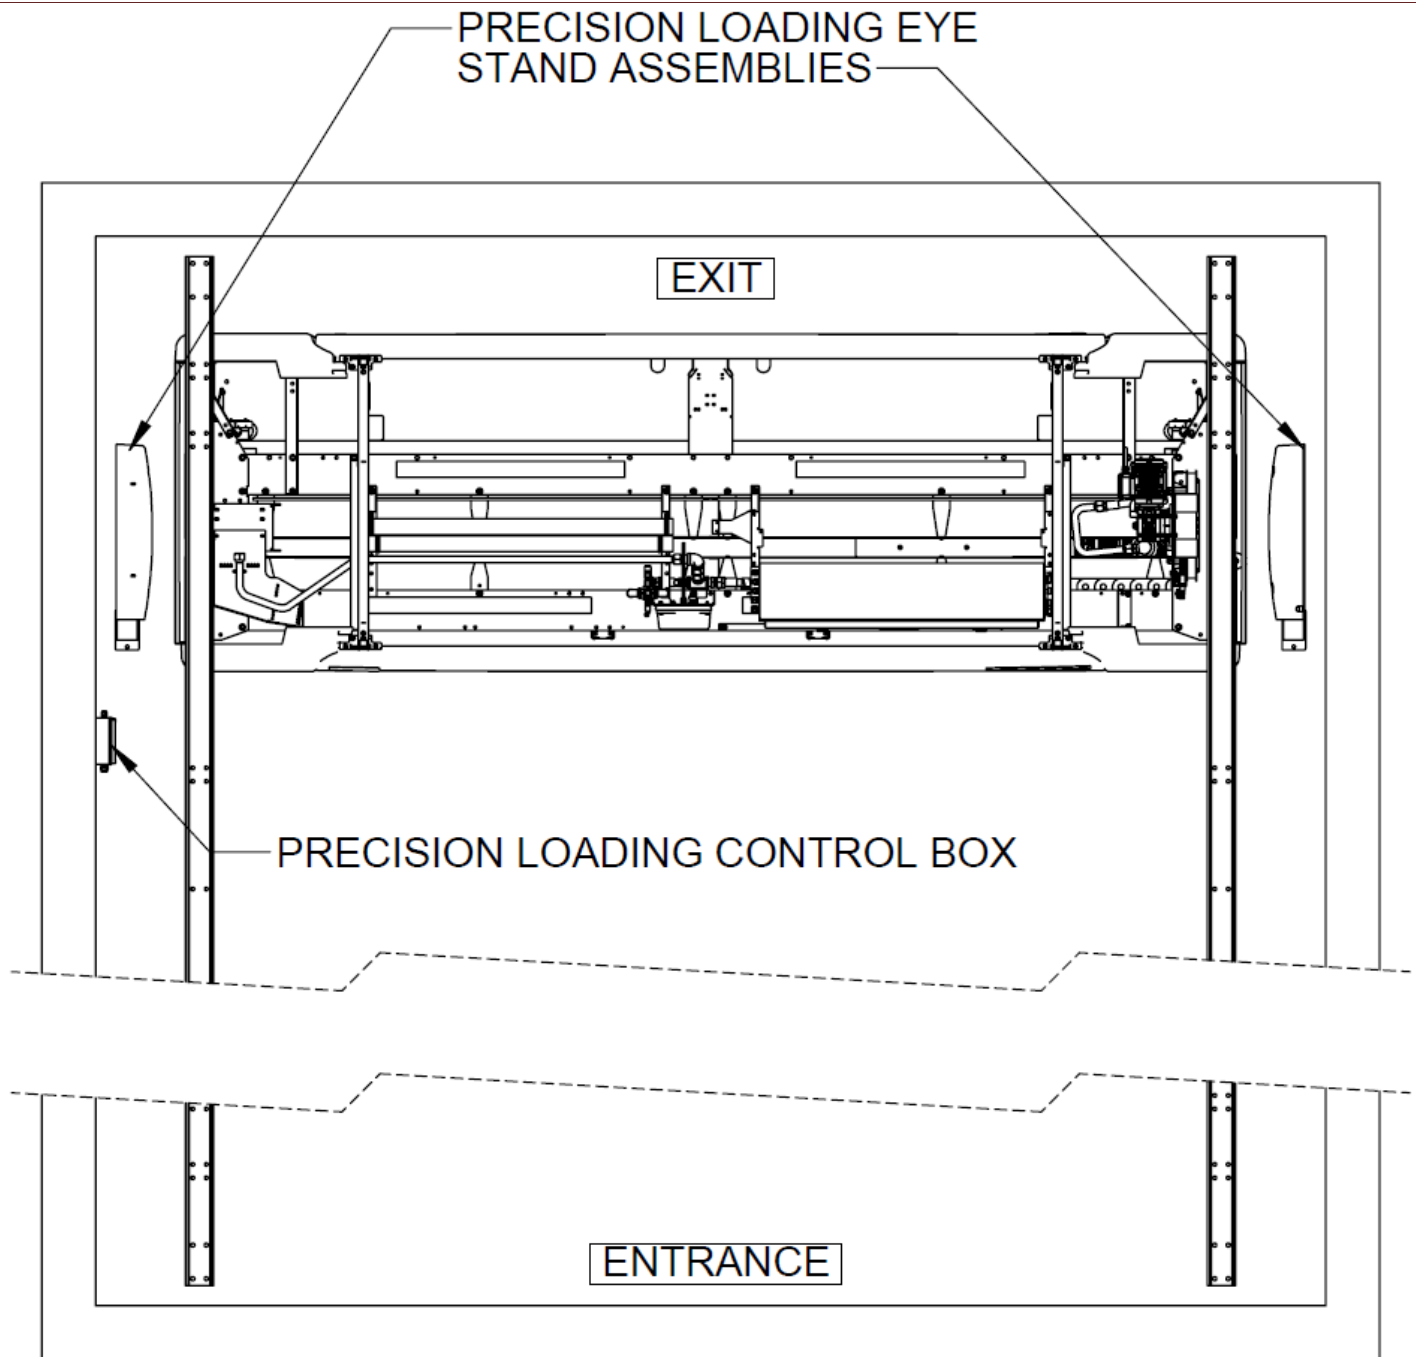
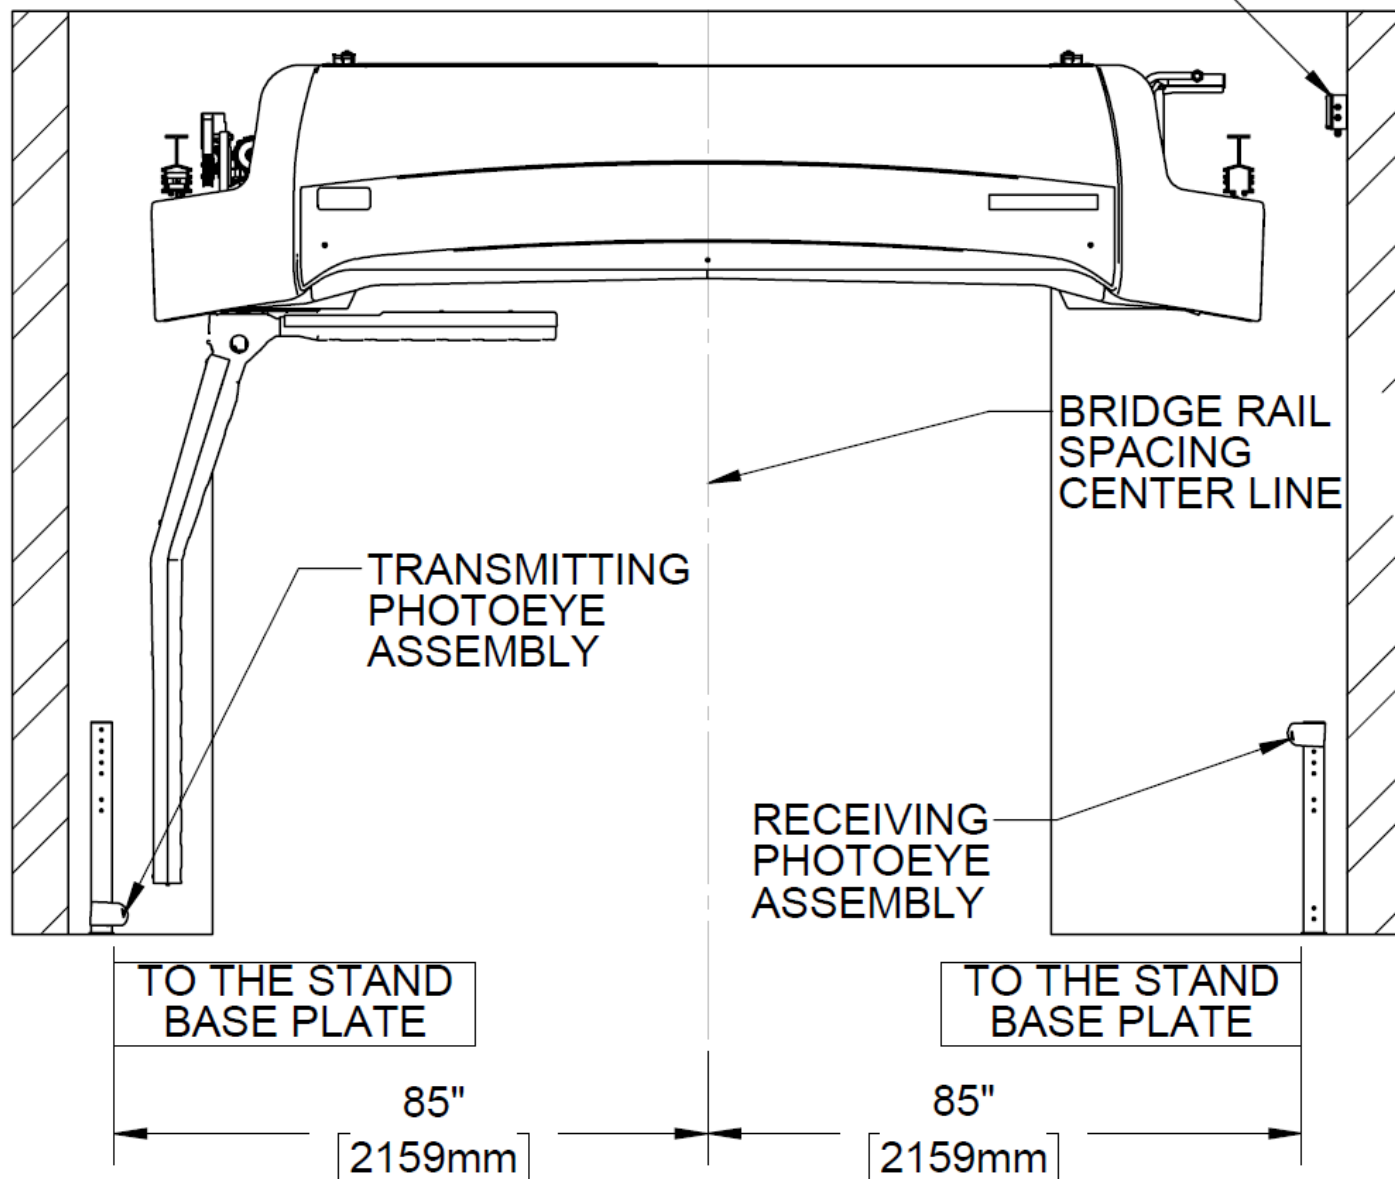

Figure 148 - Precision Loading System - Plan View
Figure 149 - Precision Loading System - Exit View
Figure 148 shows a plan view of the wash bay with the Precision Loading Eyes in the recommended location. Figure 149 shows the view of the system from the exit end of the bay looking toward the entrance and Figure 154 shows the system in the elevation view.
- Measure and mark the locations for the floor stands and shown in Figure 149 and Figure 150.
- Locate the Precision Loading junction box as shown in Figure 148 and Figure 149.